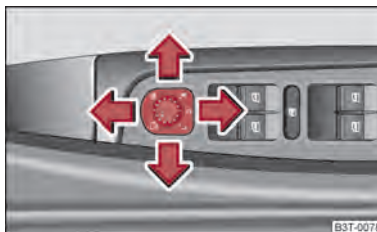

Fig. 55 Inner part of door: Rotary knob
- Turn the rotary knob to position **☞** ⇒ fig. 55.
When the rotary knob is in position  ⇒ fig. 55 and the reverse gear is engaged, the surface of the mirror tilts down slightly. This provides an aid in seeing the kerb of the pavement when parking the car.